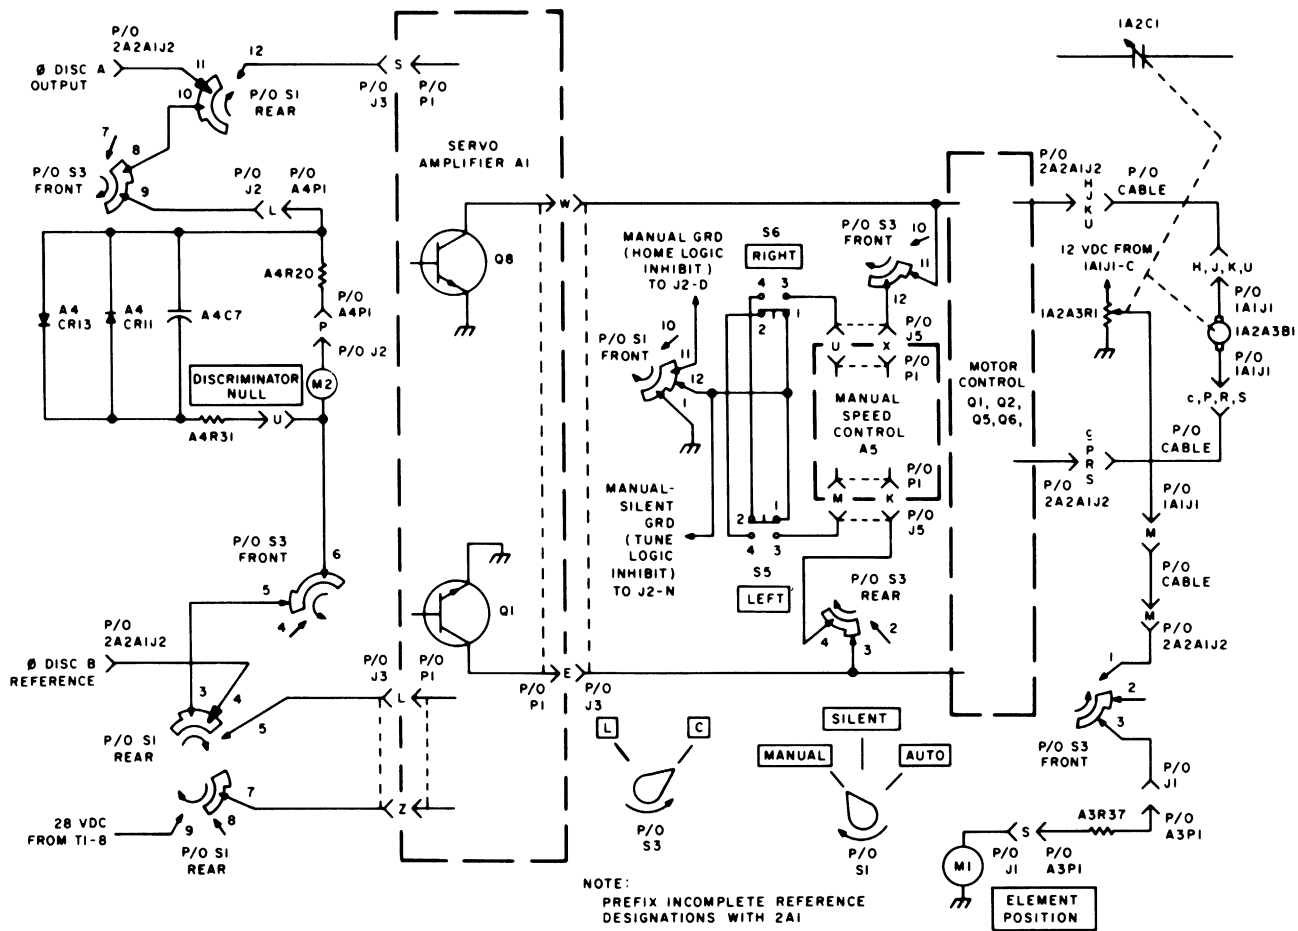
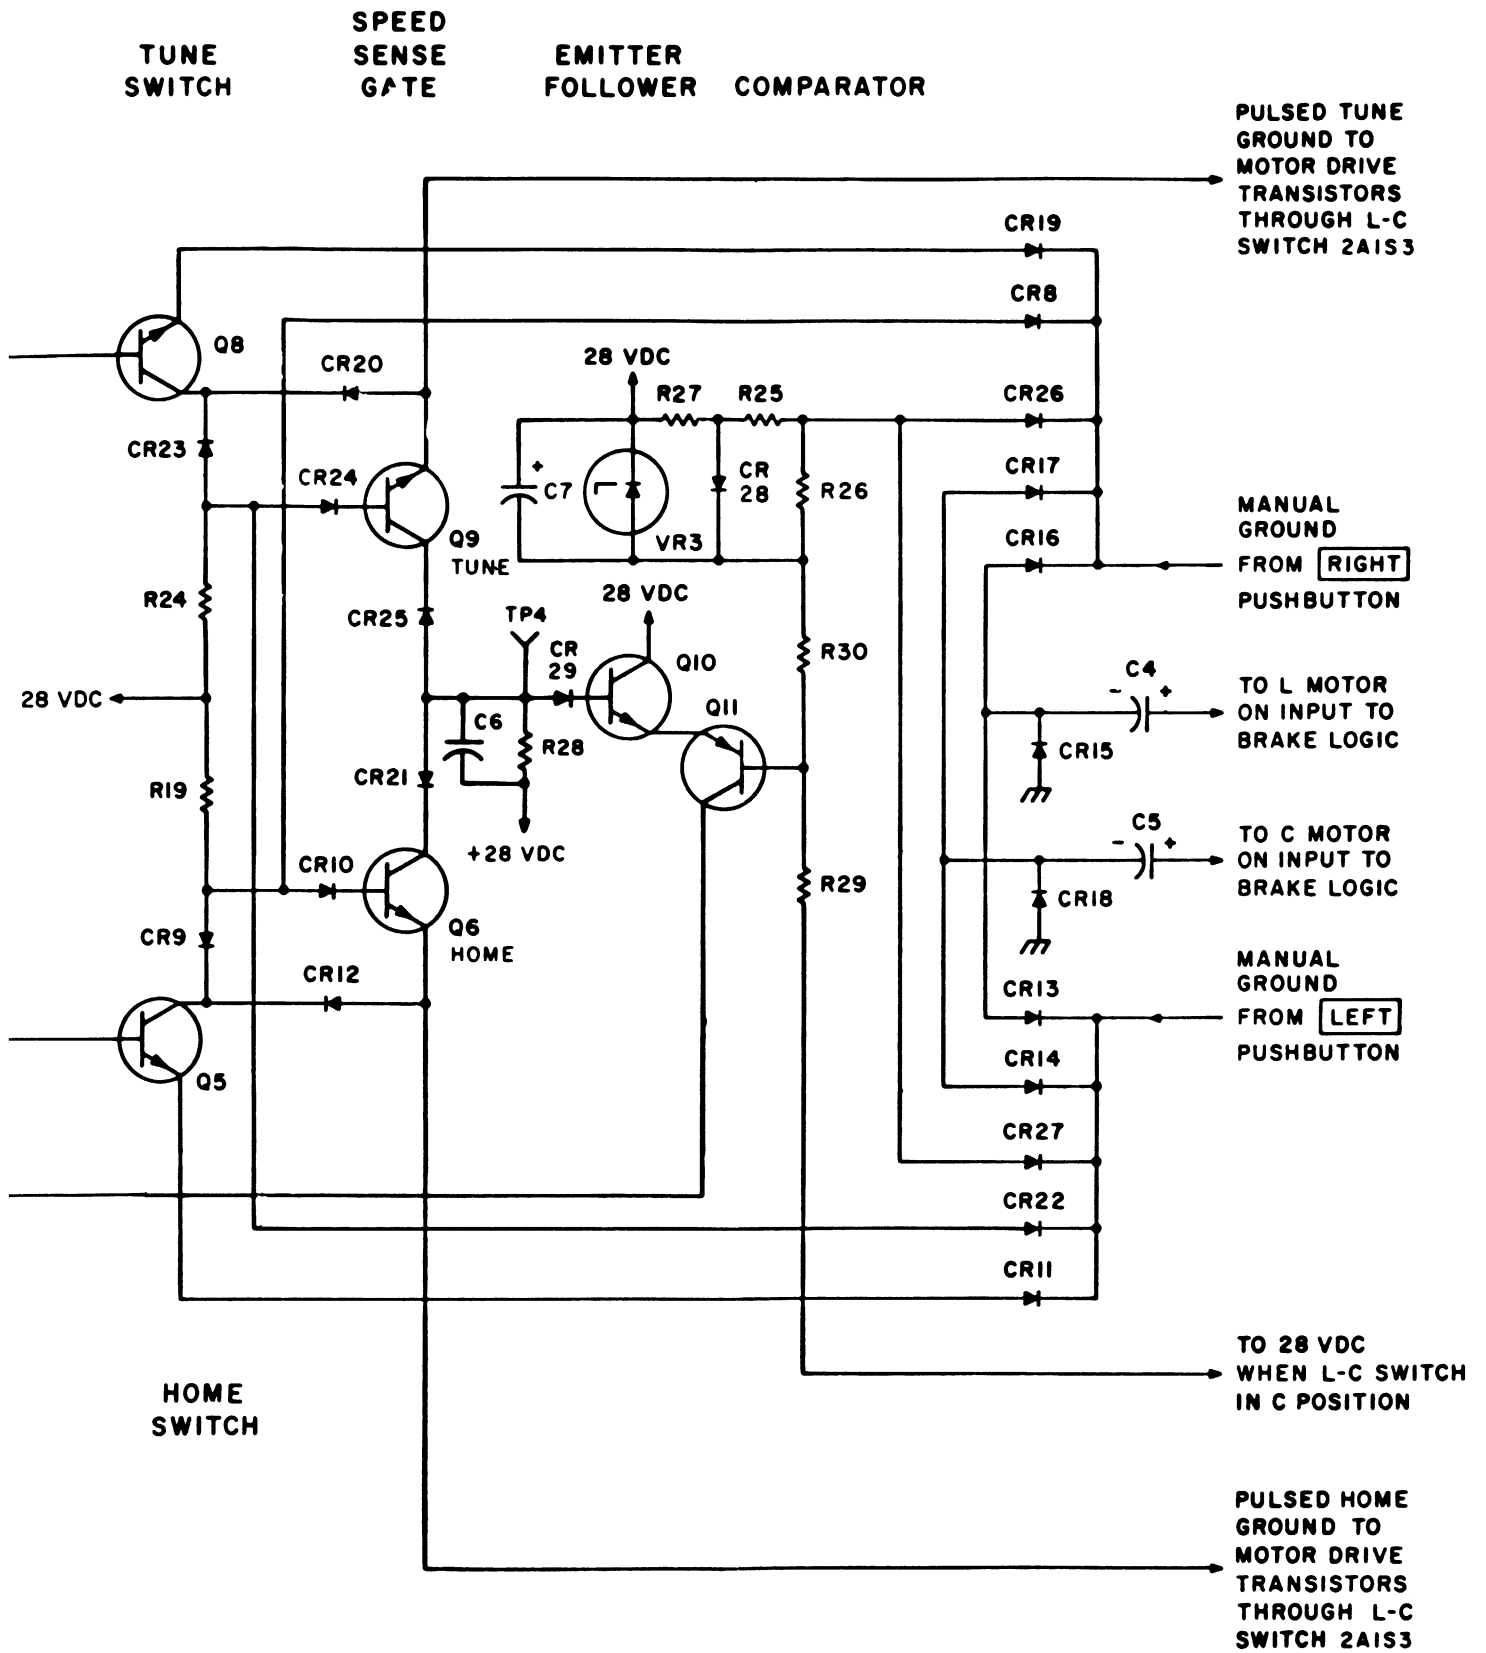

Figure 4.7. C Servo Loop, Simplified Switching and Metering Diagram
Figure 4.9. Manual Speed Control, Simplified Schematic Diagram
4.2.6.1 General. The C servo loop switching and metering circuitry (figure 4.7) provides switching and metering to allow variable capacitor 1A2C1 to be adjusted automatically or manually according to the mode of operation.
4.2.8.1 General. The function of the Manual Speed Control Circuit is to reduce the speed of the servo (which is very rapid during automatic tuning) to permit easier operator control of element positioning in manual and silent modes of operation. As explained in the description of the motor control circuit above (paragraph 4.2.5), servo operation and direction of rotation is controlled by the selective application of grounds to the appropriate motor drive transistors. In manual or silent modes of operation, these grounds are applied (from the RIGHT or LEFT pushbutton switches on the front panel) through the Manual Speed Control Circuit, to the servo selected by the L-C switch. To reduce servo speed without seriously affecting motor torque, the servo supply voltage is turned on and off at a rapid rate by the Manual Speed Control Circuit, which interrupts, or "pulses" the ground applied to the motor drive transistors. Tuning time (which is a function of motor speed) is maintained constant under the different torque requirements for the elements over the tuning range by using the back EMF (generated by the servo motors coasting between pulses) to control pulse width. Amplifiers Q5, Q6, Q8-Q11 of the Manual Speed Control Assembly operate from the standard 28 VDC output of the power supply. However, to provide constant reference voltages for critical circuits, unfiltered DC from the output of the bridge rectifier in the power supply is applied to series connected zener diodes VR1 and VR2 within the Manual Speed Control Assembly, resulting in regulated DC voltages of +10 and +20 VDC. The Manual Speed Control Circuit (figure 4.9) consists of an oscillator, a pulse generator, separate amplifier and switching stages for the two directions of motor rotation, and a speed sensing circuit.
Depressing RIGHT pushbutton 2A1S6 (figure 4.7) connects the ground applied to contact 1 from Mode Selector switch 2A1S1-front through normally closed contacts 1 and 2 of LEFT pushbuttons 2A1S5, normally open contacts 3 and 4 of RIGHT pushbutton 2A1S6 to Manual Speed Control Assembly 2A1A5 through 2A1J5-U. Within the Manual Speed Control Assembly (figure 4.7), the ground is applied to the Tune Switch, the Home Speed Sense Gate and the brake stabilizing circuits. Paragraph 4.2.8.5 explains the function of the brake stabilizing circuit. The ground applied through CR8 to the junction of R19 and CR10 turns off Home Speed Sense Gate Q6 during Tune operations. The ground applied through CR19 to Tune switch Q8 emitter will be applied through Q8 to the junction of diodes CR20 and CR23 each time Q8 is turned on from the pulse generator as explained above, resulting in a series of (ground potential) pulses at this point. The pulses are applied through CR20, and connection 2A1J5-X (figure 4.7) to wiper contact 12 of 2A1S3 front (L-C switch).
4.2.8.4 Speed Sensing Circuit Description. The speed sensing circuit has two functions. First, it compensates for variations in motor speed caused by differences in torque over the tuning range, and second it provides the L servo with a faster motor speed, to compensate for the greater number of revolutions required to cover the tuning range. Both functions are accomplished by varying the positive voltage applied to the emitter of pulse generator Q2, to vary pulse width (and thereby control the speed of the servo motors). Although the supply voltage to the servos is pulsed during pushbutton operation (by interrupting the ground return) the brakes are energized for the length of the operate command to the servo (time the pushbutton is depressed) since the motor brakes are not capable of following the pulsed voltage. This means the servos will coast between pulses. Assume that the RIGHT pushbutton has been depressed to apply ground pulses to the base of Motor Drive Transistor 2A1Q5 (paragraph 4.2.8.3). Between pulses, the 28 VDC applied through the divider network in C Servo Amplifier Assembly 2A1A1 will return the base of 2A1Q5 to approximately 28 VDC, and de-energize the servo. This voltage will also be applied from the base of 2A1Q5, back through contacts 12 and 11 of 2A1S3-front, (figure 4.7) and connection 2A1J5-X to the emitter of Tune Speed Sense Gate Q9 (figure 4.9). However, the servo, coasting between pulses will act as a generator to generate a voltage (back EMF) which will have the same polarity as the voltage applied during pulses. This voltage (which will of course vary with speed), will be applied back from the servo (and through connection 2A1J3-X for Motor Drive Transistor 2A1Q5) to the voltage divider network in the Servo Amplifier, where it will oppose part of the 28 VDC applied to the base of Motor Drive Transistor 2A1Q5 (through the line from the Manual Speed Control Assembly) at the emitter of Tune Speed Sense Gate Q9.